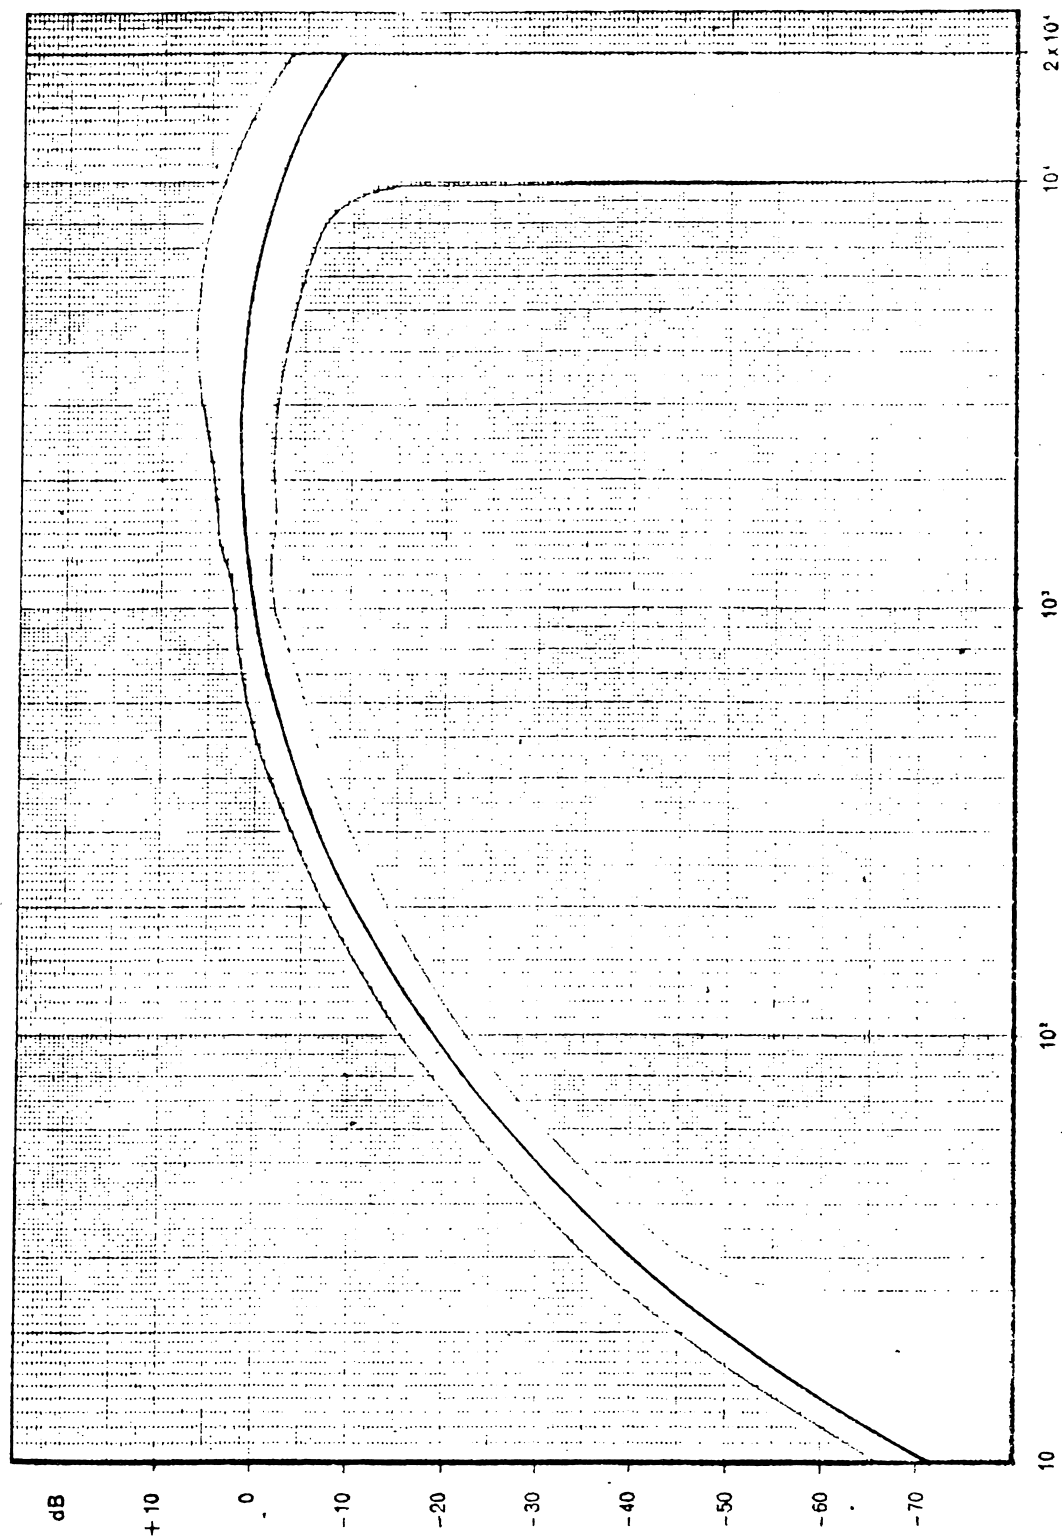

Fig. 3: Filter IEC 123/A.
2.  As under 1. above, but with a weighting curve filter connected - IEC 123/A (fig. 3). This filter should be used especially in signal-to-noise and crosstalk measurements.
Service manuals often specify the use of a weighting curve filter (fig. 3). The RWM 4 incorporates such a filter. To use it, depress the "   " button instead of "   ". The above formulas should be used ((3), (4) and (5)).